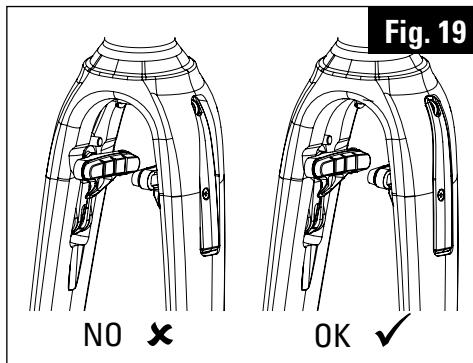

Fig. 19
- 9 / Hold the cable, using the cable grip so that both outer levers follow the line of the fork (Fig.19). The adjustment can be completed as required using the tensioner adjuster (see **ADH2 handlebars instructions**).